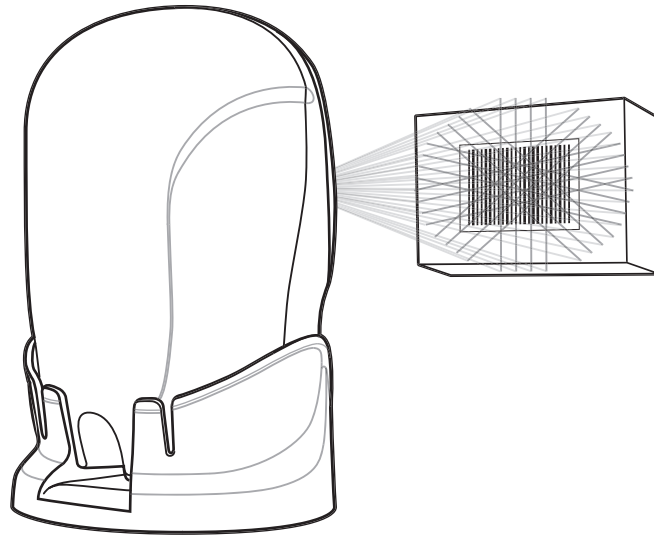
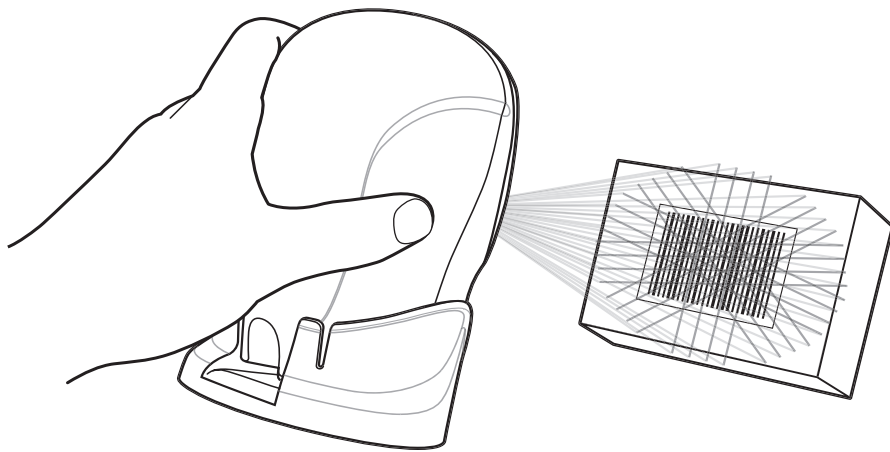

Figure 2-2. Hands-Free Mode
Figure 2-3. Hand-Held Mode
3. To scan a bar code, present the bar code and ensure the scan lines cross every bar and space of the symbol. See Figure 2-2 on page 2-4 for scanning in hands-free mode and Figure 2-3 on page 2-4 for scanning in hand-held mode.